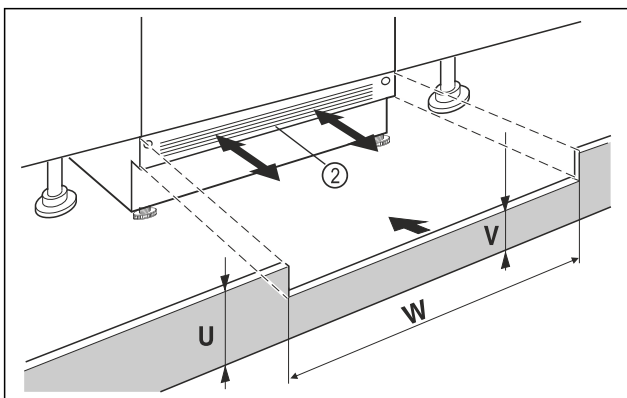

Fig. 35 Example illustration
- ▶ Put on the appliance base cover Fig. 35 (2) but do not fix it in place yet.
- ▶ If the base panel is visible Fig. 35 (2), pull it forwards so that the front edge of the ventilation grille and the unit base panel are level.
- ▶ If the base panel is concealed Fig. 35 (2), push it all the way back.
- ▶ Ensure that the ventilation slots are completely free: If necessary, cut the height of the unit base panel Fig. 35 (U) to size!
- ▶ Adjust the web height Fig. 35 (V) under the appliance base panel Fig. 35 (2) along the niche width Fig. 35 (W).